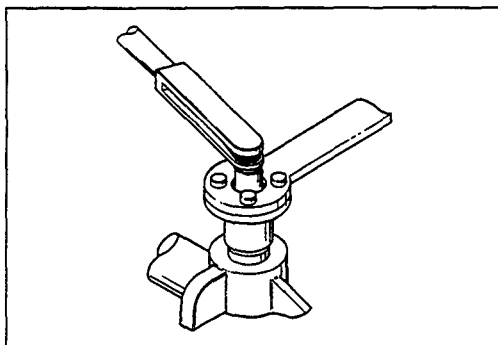

Figure 8
7. Install the pinion nut while restraining the companion flange, tighten the pinion nut to the specified torque. (Fig. 8).